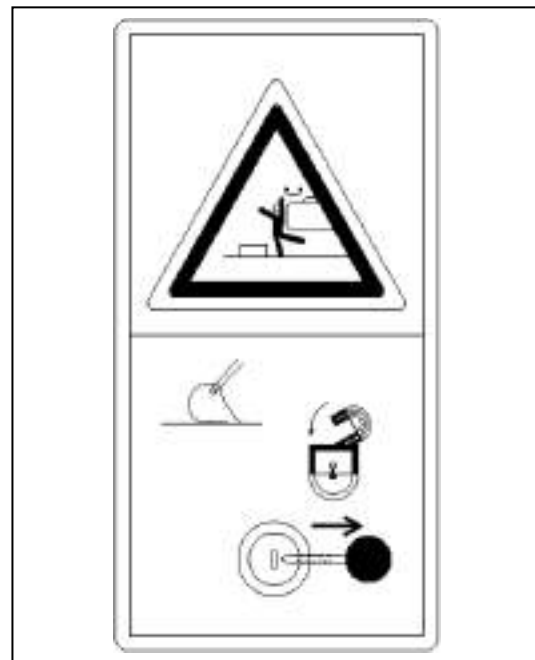

Figure 1-19 Warning on leaving the operator's seat
(18) Warning on leaving the operator seat, as shown in Figure 1-19.